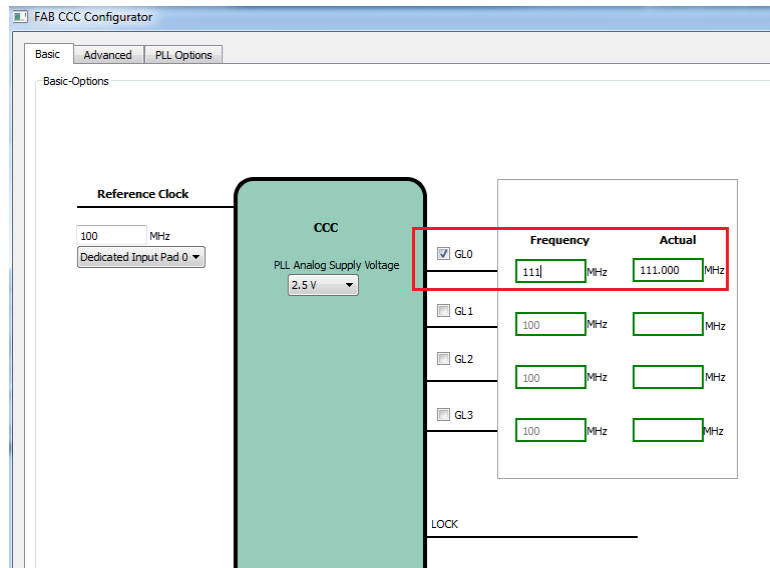

Figure 2-21 • Fabric CCC Configuration
8. Instantiate the clock resources (FAB_CCC and chip oscillators) in the SmartDesign canvas and configure, as required. In this example, the fabric CCC is configured to generate 111 MHz, as shown in Figure 2-21.